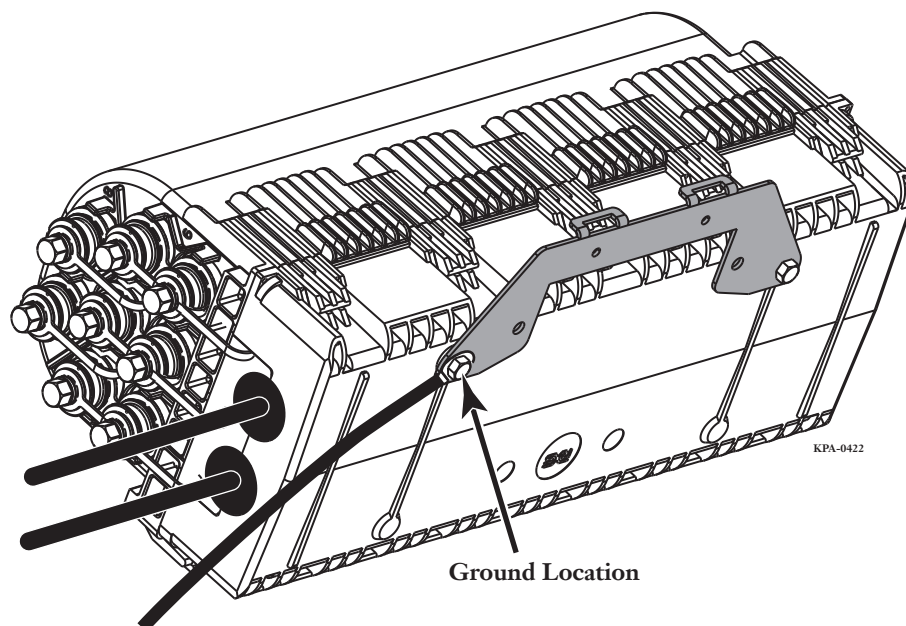

Figure 54
If grounding is required, and was not performed previously, use a #M6-12 mm 3/8-inch hex-head screw to attach a #6 AWG ground wire to the terminal at the ground location shown in Figure 54. Terminate the other end of the ground wire per standard codes and local methods and practices.
**Step 2:** If grounding is required, attach a #6 AWG ground wire with one of the mounting screws for the bracket before securing the terminal to the wall (Figure 54). Terminate the other end of the ground wire per standard codes and local methods and practices.